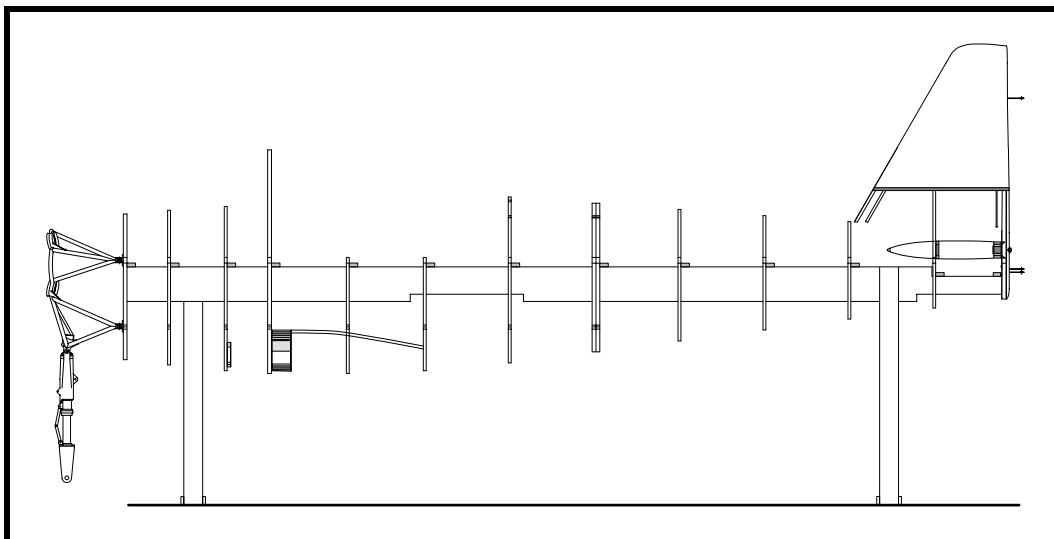

Figure 14
- ☐ Install fuselage frame No. 1 on the jig with its “one by two” brace. See Figure 14.